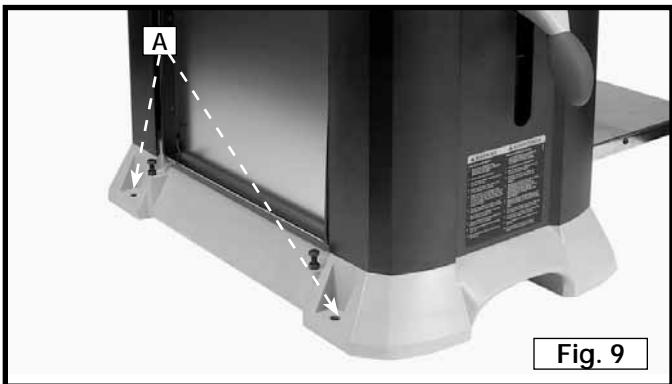

Fig. 9
CAUTION During operation, if there is any tendency for the planer to tip over, slide or "walk" across the supporting surface, the planer must be secured to the supporting surface. Four holes (two of which are at (A) Fig. 9) are provided for this purpose.
If you attach the planer to one of the accessory stands (models 50-326 or 50-322), align the four holes in the base of the machine, two of which are shown at (A) Fig. 9, with the four holes in the top of the stand. Place the carriage head flange bolt through the holes in the planer and the stand. Thread the flange nut on the carriage head flange bolt. Tighten it securely.